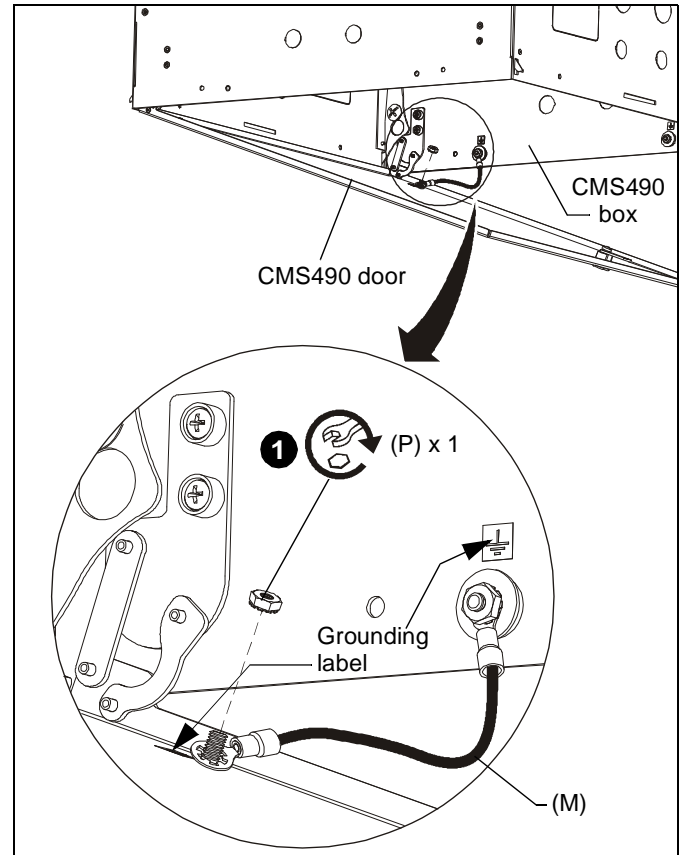

Figure 12
1. Attach one of the grounding wires (M) using one 10-32 grounding nut (P) between the door and the CMS490 box at one of the points marked with grounding labels. (See Figure 12)